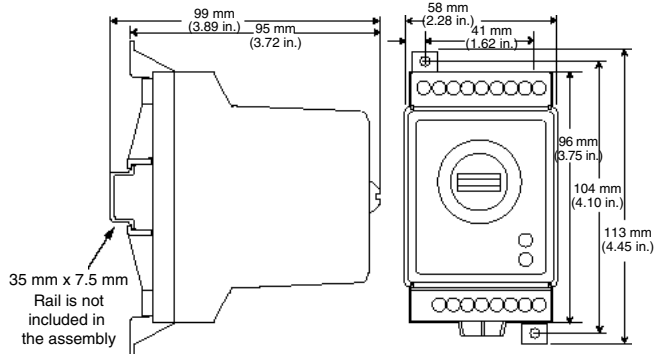

Figure 2a — Series 146 dimensions.
2. Drill two 5 mm (0.19 in.) diameter holes in the desired panel location. See Figure 2a for hole locations.